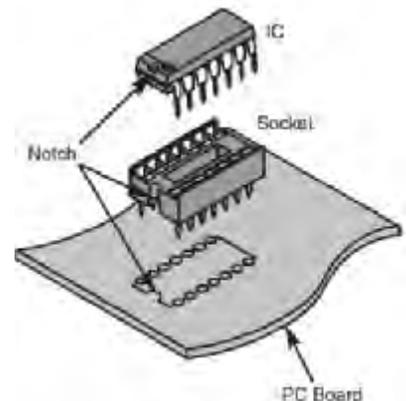

Figure 10 - DIP Socket & IC
- 4) Locate the 8-pin DIP socket. Note that the DIP socket has a notch in its frame at one end. This notch is used to indicate the Pin 1 end of the DIP socket and the IC that will eventually be installed therein. Refer to Figure 10, and align the notched end of the DIP socket with the notch in the screen printed outline at PCB location U2. With the DIP socket aligned in this manner, insert it into the PCB, making